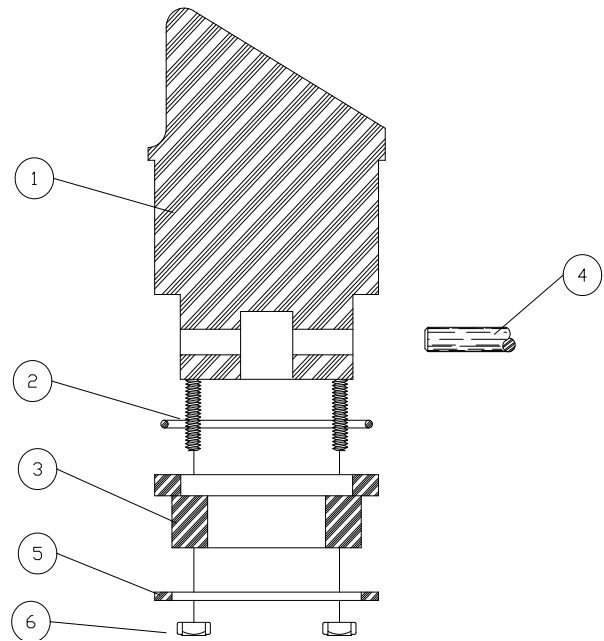

FIGURE 4
TO DISMANTLE PISTON IN FIGURE 4, REMOVE THE SIX HEX NUTS (6), SLIP RING (5) DOWN AND OFF, THEN WITH SLIGHT PRESSURE, PUSH PISTON RING (3) OFF PISTON AND RUBBER "O" RING (2). WHEN REASSEMBLING THE PISTON, A VERY **IMPORTANT** STEP IS TO MAKE SURE THE SIX NUTS (6) ARE NOT OVERLY TIGHTENED, MERELY SNUG. AS THE RING WEARS OVER A PERIOD OF TIME, CONTINUE TO SNUG UP THE SIX NUTS. THIS PROCEDURE WILL NOT ONLY PROVIDE LONG LIFE TO THE PISTON RING BUT WILL MAINTAIN FULL VACUUM.